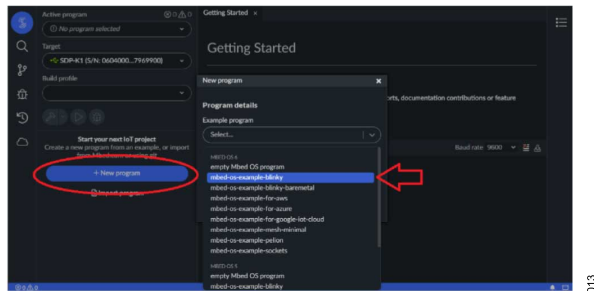

Figure 13. Create MBED Project
2. Create a new project based on the example project, **mbed-os-example-blinky**. Add the **New Program** name, AD74115, in this example (see Figure 13).